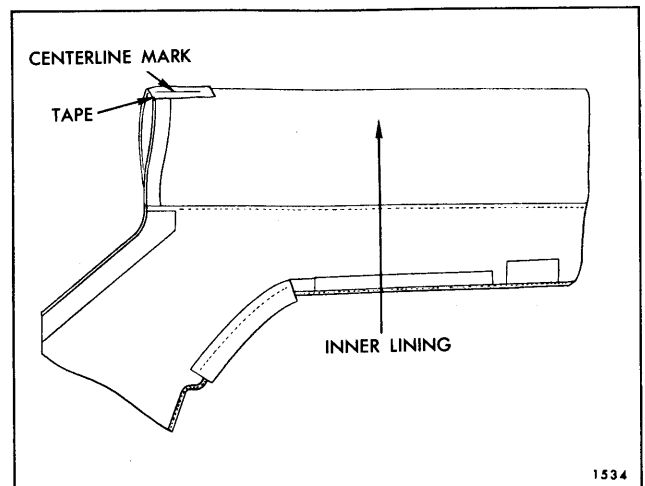

Fig. 13-19—Marking Folding Top Material
21. Fold new top material in half so that inner lining of top material is exposed (Fig. 13-19). Install a 6" piece of tape on inner surface at centerline fold of new top material (Fig. 13-19). Using a pencil, mark the approximate centerline of new top material along entire length of tape.